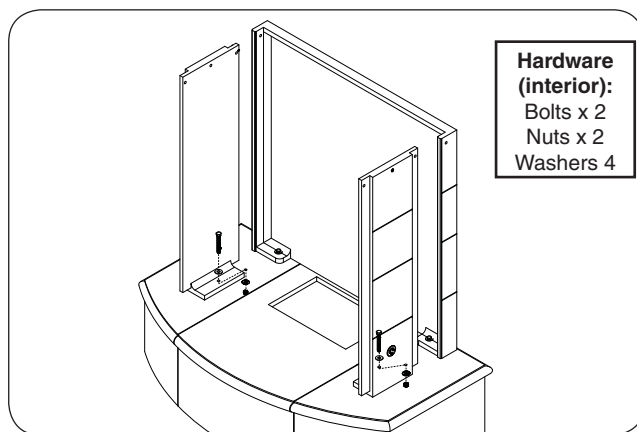

Fig. 17-2 Assemble body - side walls
2. Place the body side walls pieces on top of the hearth. Carefully align the pilot holes to the hearth, insert the hardware (interior hardware kit), and only hand tighten at this stage. See Fig. 17-2.